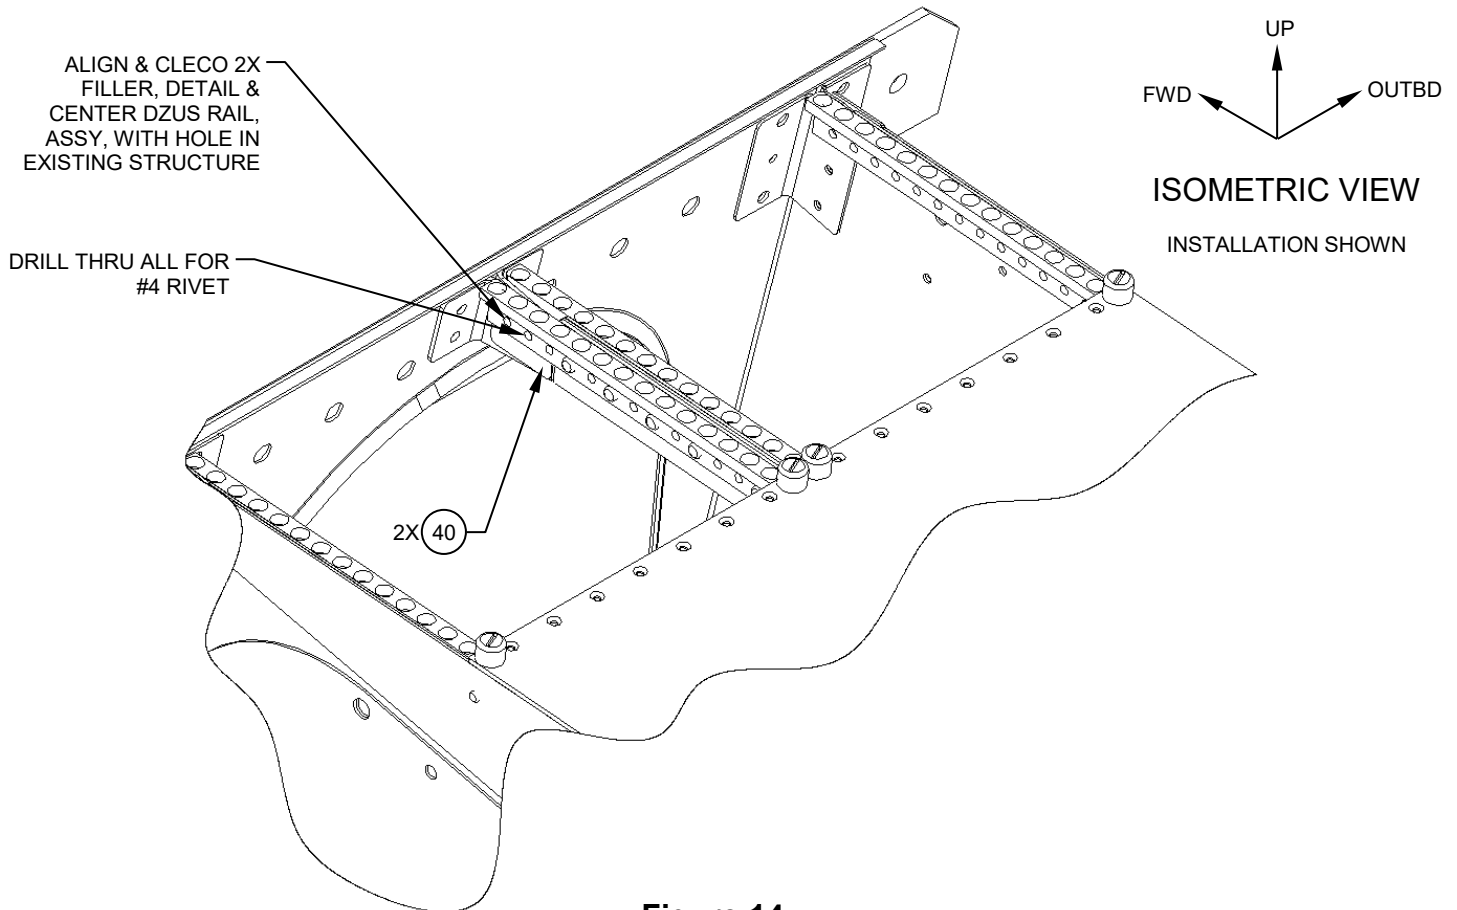

Figure 14
3.1. Align the 2X Filler, Detail, (Item 40), with the previously trimmed edge, and 1X Drill through the Center Dzus Rail, Assy, (Item 12), 2X Filler, Detail, (Item 41), and the OEM stucture, for 2x Rivet, Solid, Universal Head, (Item 37). See Figure 14.